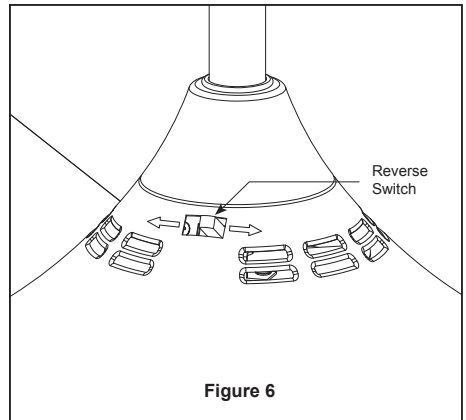

Figure 6
6. Secure the glass to light kit by twisting in a clockwise direction. Twist the glass gradually **until it snaps onto the light kit**. Do not over-tighten. (Figure 6)
- ### 6. If airflow is desired in the opposite direction, turn the fan off and wait for the blades to stop turning. Then slide the reverse switch on top of motor assembly to the opposite position and turn fan on again. (Figure 6)